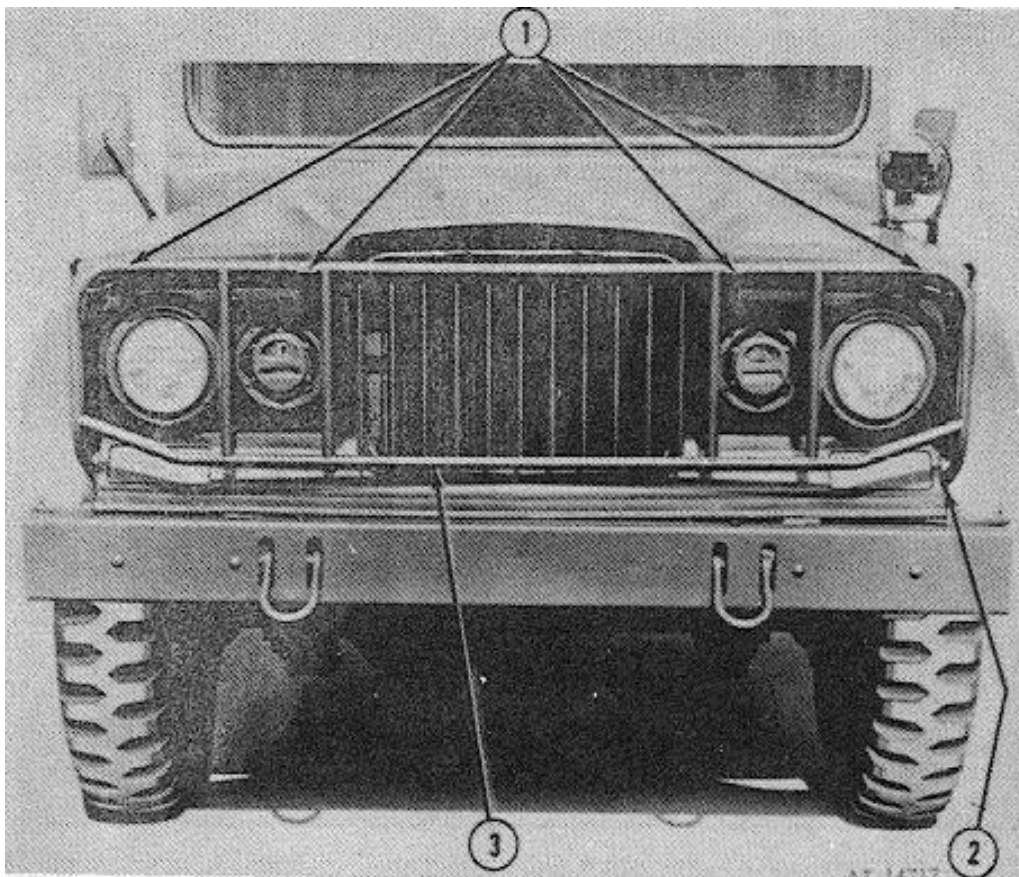
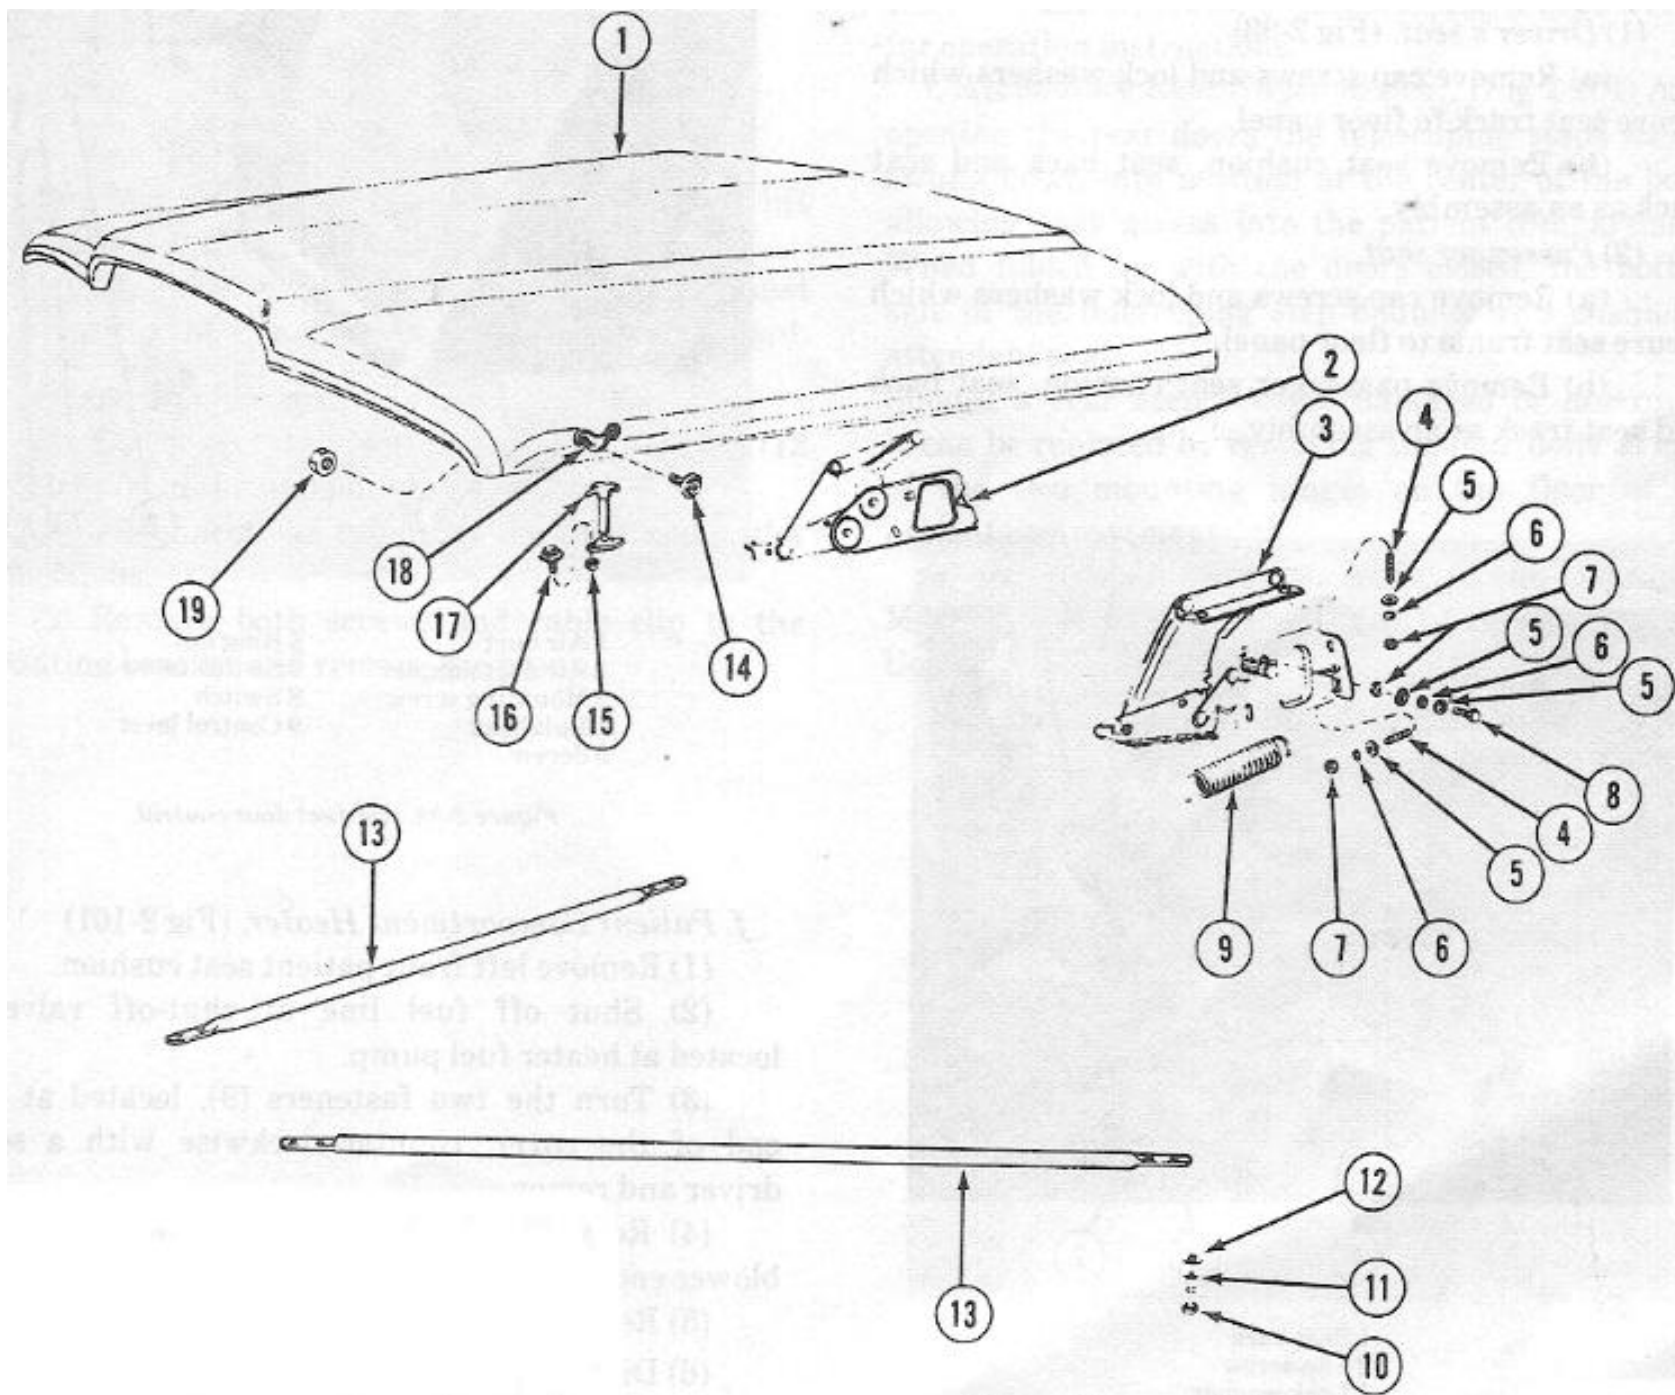
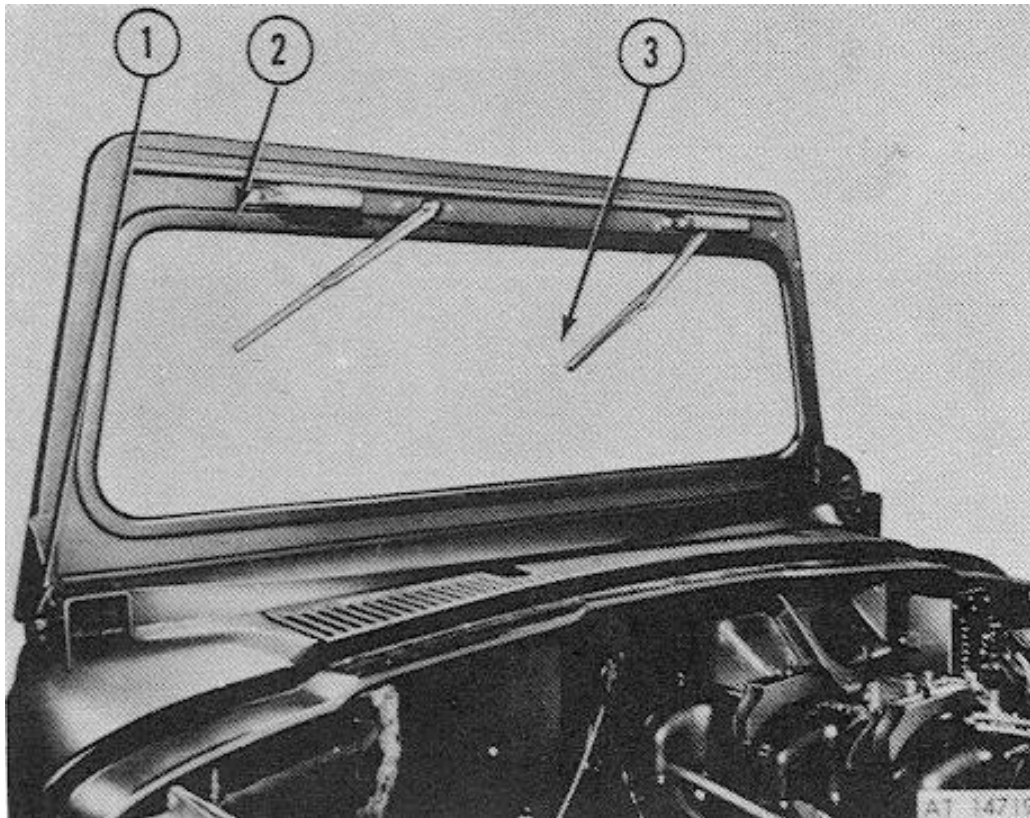

Figure 2-95. Grille guard removal.
Figure 2-96. Hood panel and attaching parts.
Figure 2-97. Windshield removal.
a. Grille Guard. (Fig 2-95)
- (1) Remove bolts securing upper grille guard support straps to grille panel and radiator support assembly.
- (2) Remove bolts securing lower grille guard rail to left and right side of the grille panel and radiator support assembly.
- (3) Remove grille guard assembly.
b. Hood panel and Hood Hinge. (Fig 2-96)
- (1) Unlatch both the left and right hood retaining latches and raise the hood to the full open position. Disconnect the blackout driving light wire harness.
- (2) Before removing the hood panel, scribe the position of the hinge on the hood reinforcement if the hood panel is correctly aligned. If the hinges are to be removed preparatory to taking off the complete front end assembly, scribe the position of the rear face of each hinge on the firewall and the position of each hinge side on the fender apron bracket.
- (3) Detach the hood panel from the hinges by removing the bolts, lock washers and flat washers securing the hood to the top of the hinges. Lift the hood panel off the hinges.
- (4) If the hood panel is being removed in preparation of removing the complete front end assembly, remove the hood hinges, once the hood panel is off, by removing the bolts, lock washers and washers securing the hinges to the firewall and to the fender apron bracket.
c. Windshield. (Fig 2-97)
- (1) Unsnap cab soft top from corners of windshield frame.
- (2) Disconnect windshield wiper vacuum hose at windshield wiper motor.
- (3) Disconnect vacuum hose from clips attached at windshield wiper frame.
- (4) Remove two pivot bolts which secure windshield left and right hinges to cowl panel.
- (5) Disconnect left and right windshield clamps from instrument panel.
- (6) Lift windshield up to disengage hinge bolts from cowl panel and remove windshield assembly, sliding soft top from windshield channel.